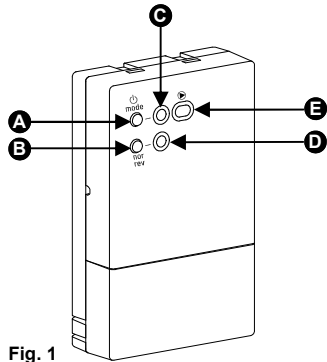

Fig. 1
On the front panel of the device there are two buttons and three LEDs, as shown in Fig. 1, which give informations about the powering of the device, the type of input and the type of output.
LED "E" (E) of Fig.1)
Output type LED (C) of Fig.1)
Input type LED (D) of Fig.1)
Button "O/mode" (A) of Fig.1)
Button "nor/rev" (B) of Fig.1)